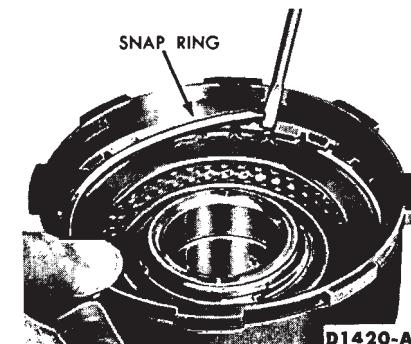

FIG. 74—Removing or Installing Reverse—High Pressure Plate Snap Ring
1. Remove the pressure plate retaining snap ring (Fig. 74).